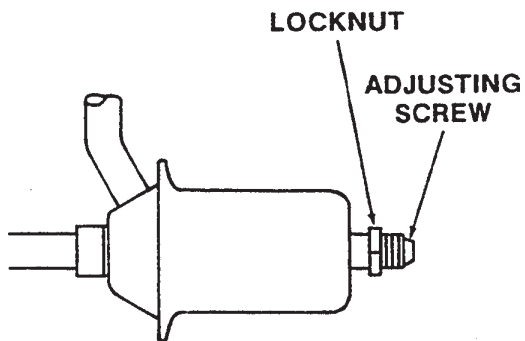

Figure 40. E.P.R. Valve Adjustment
6. Remove the plastic cap and loosen the locknut on the E.P.R. valve. Then, using a small screwdriver, turn the valve stem one-fourth (90°) turn counterclockwise for more cooling or clockwise for less cooling (Figure 40).